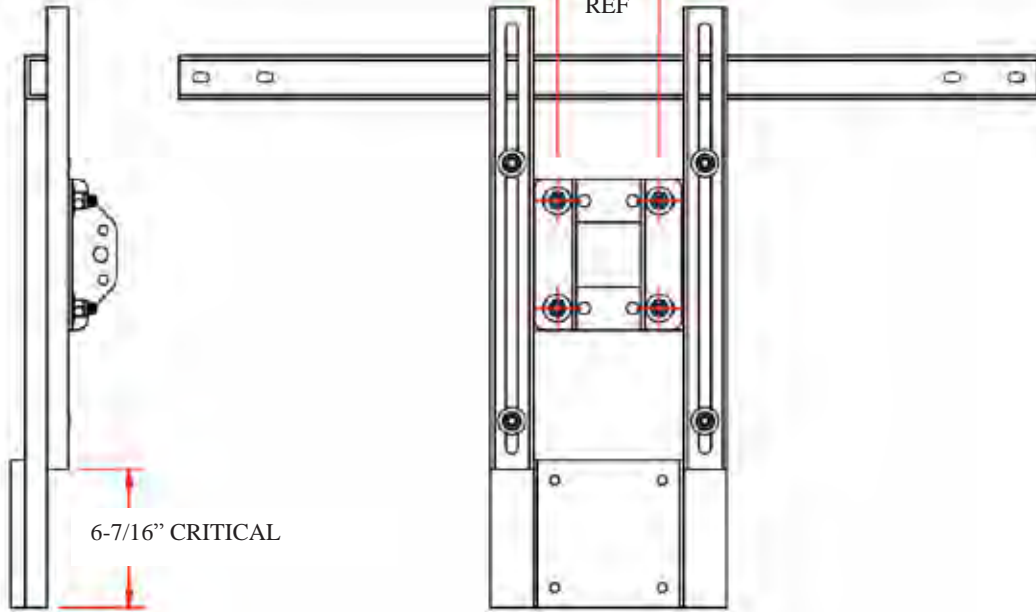

Figure 2
2. Slide the T-Frame on the H-Frame slot channel till the bottom of both frames are at a distance of 6-7/16" (Figure 2) and tighten the carriage bolts down.